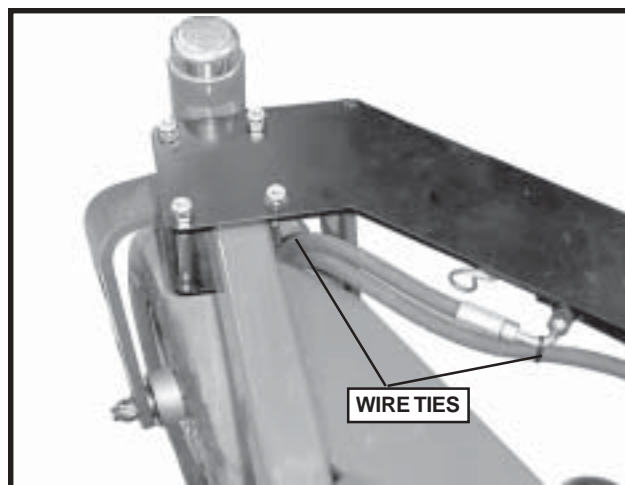

FIGURE 4
- Using the wire ties, attach the hydraulic lines so that they do not come in contact with any hot or moving parts. See Figure 4.